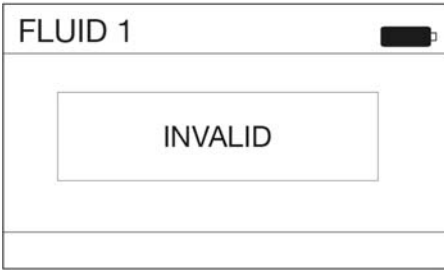

FIG. 58
2. Hold the voucher or tag to the display. If the meter does not recognize the voucher or tag, an INVALID (FIG. 58) message displays